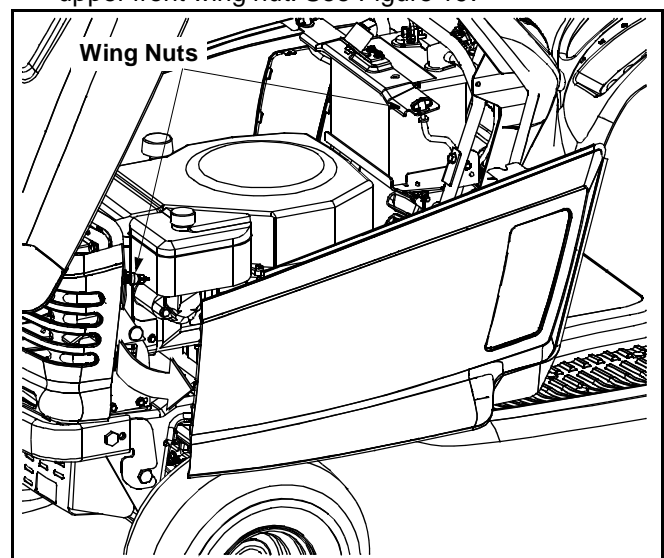

Figure 19
- Loosen, but do not remove, the rear wing nut and upper front wing nut. See Figure 19.